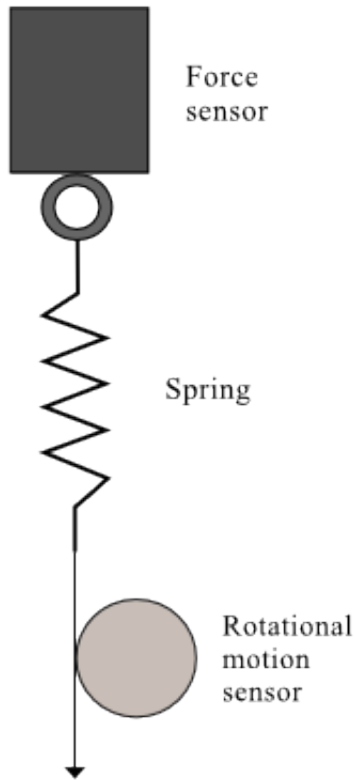

Figure 2: The apparatus setup for the Hooke's Law experiment
The apparatus setup shown in fig. 2 will be used to find the spring constant in spring 2.
- 3 Replace the 1 kg weight with the spring. Attach a piece of string to it. Wrap the string around the **large** pulley of the rotational motion detector in a counter clockwise direction as depicted in fig. 2. The rotational motion sensor has been calibrated to read the linear distance.
- 1 In the experimental setup from fig. 2, replace the spring with the long rubber band.
- 2 With no added mass, measure the period of oscillations for starting amplitudes of 4 cm and 12 cm. Data acquisition will stop automatically after 5 sec. The sample recording is shown in fig. 2. The period is measured by the photogate and recorded in the table 1 to the left of the graph.